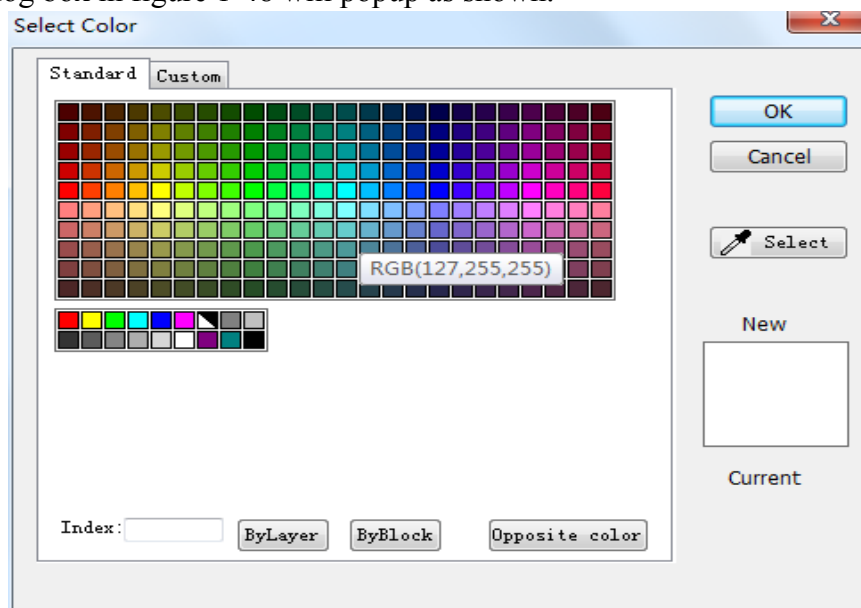

Figure 1-48 Color setting
- 2) Click the color button of the layer whose color is to be changed from the list in the dialog box. The Below shown dialog box in figure 1-48 will popup as shown.